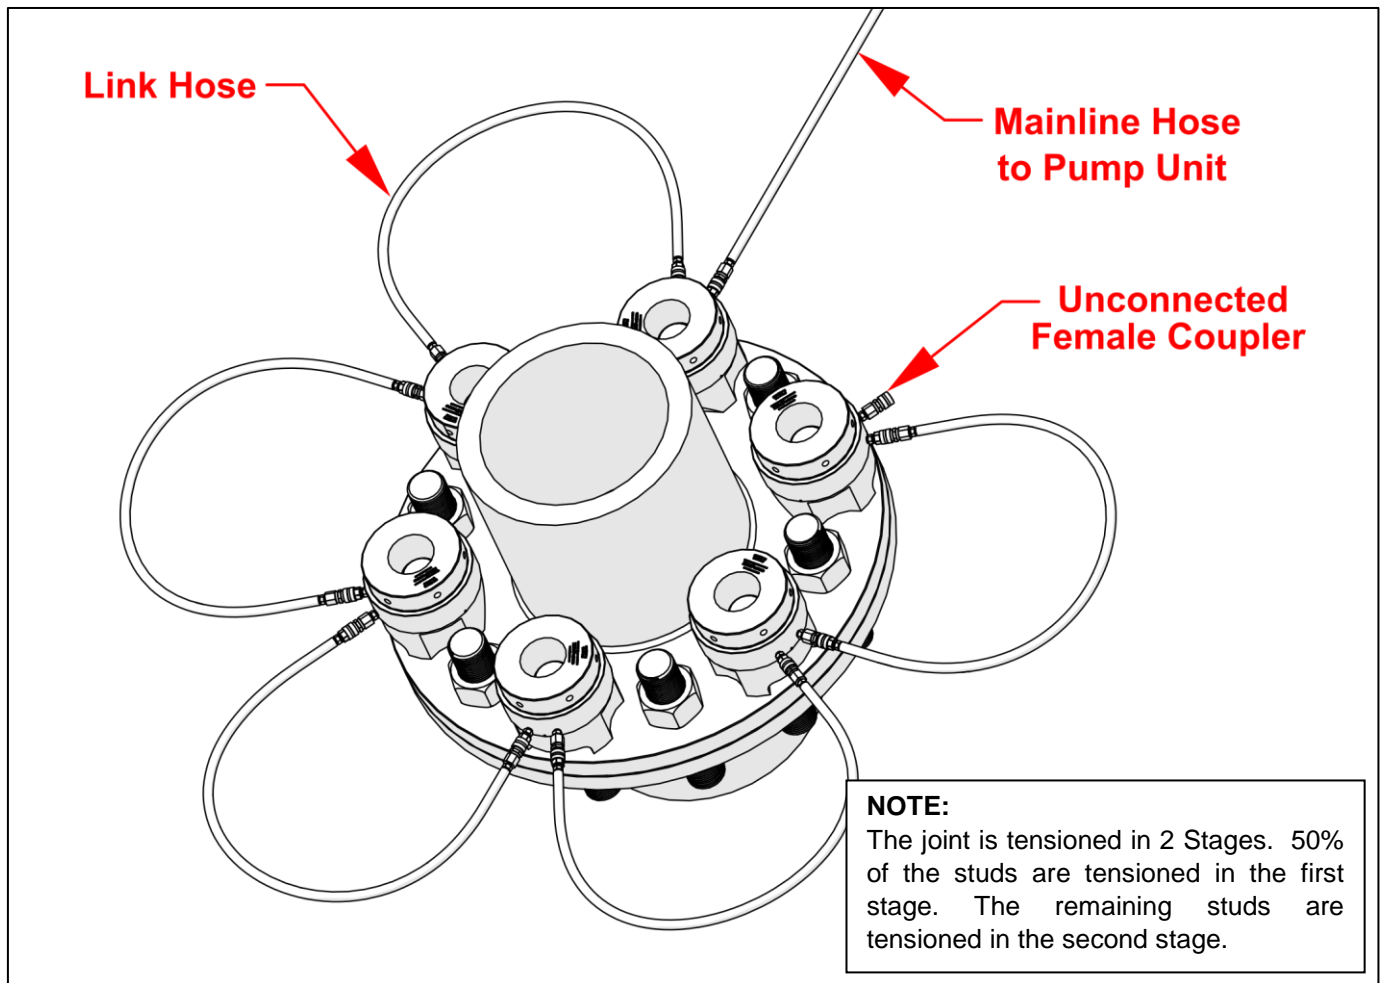

Figure 5.4: Bolt Tensioner Sequence (50% Coverage)
The most common configuration for topside tensioning is the 50% coverage arrangement, covered below (See figure 5.4). For further advice about bolting sequences not covered in the manual, contact your nearest Hi-Force office or distributor.
2. Assemble the load cell and bridge over the first 50% of the bolts to be tensioned (every alternate bolt) (See figure 5.4). Position the bridge window (3) so that access to either the nut rotating socket, (8) or hexagon nut, is comfortably achieved. It is normal for the bridge window to face radially out from the centre of a circular flanged joint.
3. Ensure the threaded pullers (4) are threaded to the same diameter, thread form and pitch as the bolts to be tensioned.
4. Remove the dust caps from all male and female quick-connect couplers. Connect a link-hose from the female coupler of the 1st tensioner to the male coupler of the next tensioner. Repeat this step, connecting the 2nd tensioner to the 3rd and so on, until all tensioners are connected. (See figure 5.4)